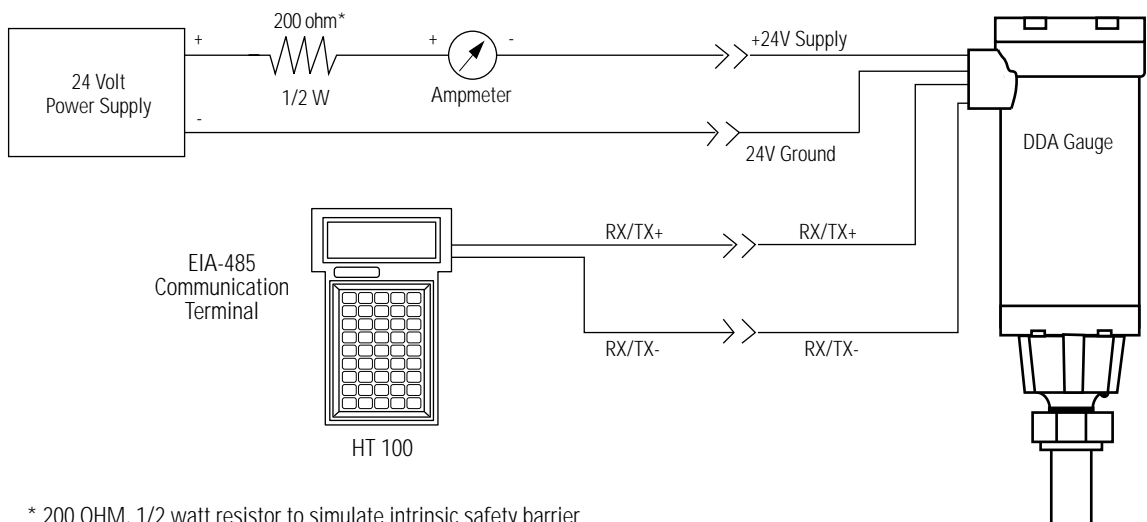
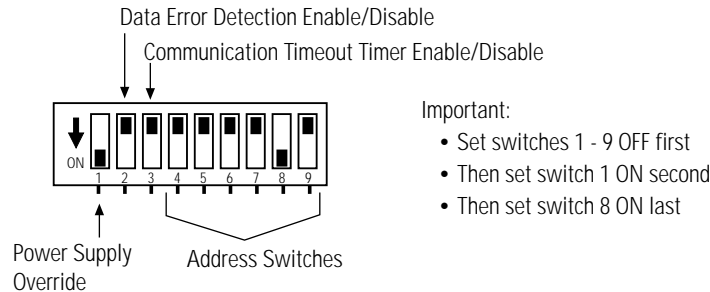
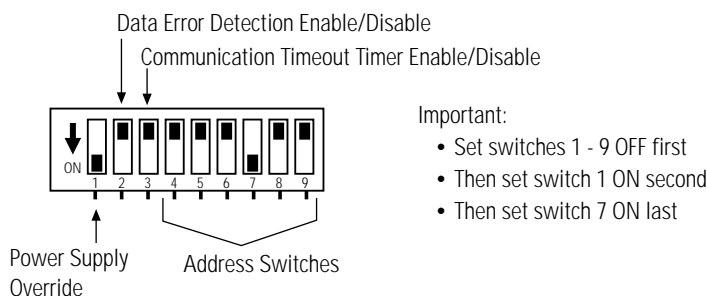

Figure 9.5 Gauge Connection for Communication Output Test
Figure 9.7 Example Switch Setting for Level Output Test
Figure 9.8 Example Switch Setting for Temperature Output Test
1. Communication output test - This test can be used to verify the DDA gauge communication output circuitry. This test assumes that the gauge power regulation and microprocessor circuitry are functional. Connect the gauge as shown in figure 9.5 below.
2. Level output test - This test can be used to verify the basic level reading function of the DDA gauge. Connect the gauge as shown in figure 9.5. Activate DDA test mode #1 (See Communication output test above) and then set switch #8 to the “on” position. See figure 9.7 below.
3. Temperature output test - This test can be used to verify the basic temperature reading function of the DDA gauge. Connect the gauge as shown in figure 9.5. Activate DDA test mode #1 (see Communication Output Test above) and then set switch #7 to the “on” position. See figure 9.8 below.